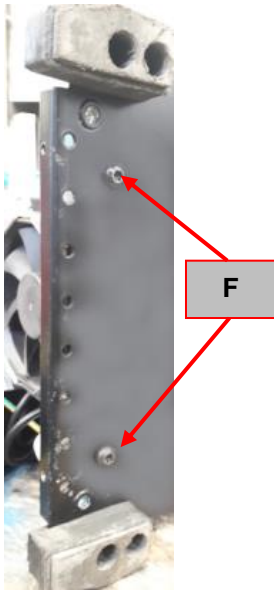

Figure 47
10. Using the TX25 wrench remove the 2 screws (F) on the bottom of the machine, See **Figure 47**